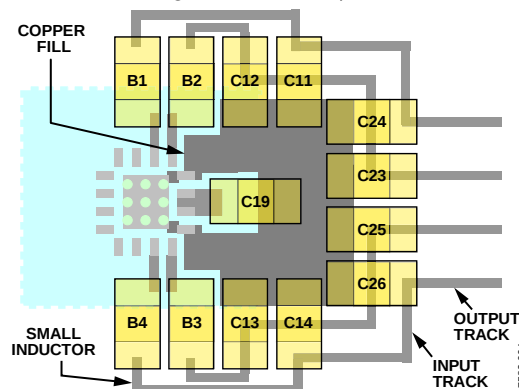
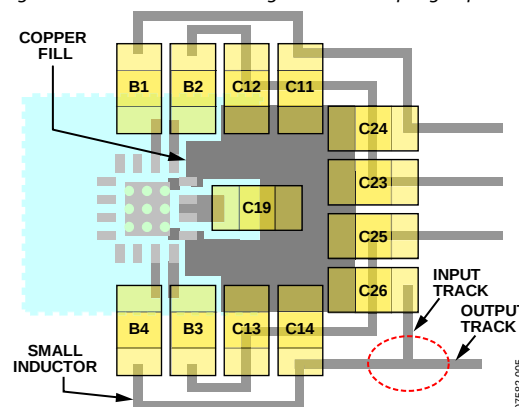

Figure 4. Placement and Routing for the Decoupling Capacitors
Figure 5. Incorrect Routing for the Output Decoupling Capacitor
3. Place the decoupling capacitors for the beads, C11, C12, C13, C14, C23, C24, C25, and C26, as close to the amplifier chip as possible, and connect all their ground terminals together as close as possible, as shown in Figure 4. The same principle applies to the decoupling capacitors for the inductors, C15, C16, C17, and C18, if they exist in the application design. Ideally, solder their ground terminals together; do not rely on PCB tracks or ground planes for connecting their ground terminals together.
4. Place the decoupling capacitor for the power supply, C19, as close to the amplifier chip as possible, as shown in Figure 4, and connect its ground terminal directly to the IC ground pins, Pin 13 and Pin 16.
7. The 1 nF capacitor and the ferrite bead can block the EMI for up to 250 MHz. To eliminate EMIs higher than the 250 MHz, place a low value small size capacitor, such as 100 pF 0402 size, in parallel with the decoupling capacitors, C11, C12, C13, and C14. However, place this small capacitor a short distance away, at least 20 mm, from the 1 nF decoupling capacitor. Ideally, the ground terminals of these capacitors are connected to the ground terminals or the PCB traces, which are placed as close to the output loads (loudspeakers) as possible. In this way, the PCB connecting trace between these two capacitors serves as an inductor for filtering out the high frequency component, as shown in Figure 4.
13. The incoming and outgoing PCB tracks to the output decoupling capacitors should not be connected to each other. The correct layout is shown in Figure 4. An example of an incorrect layout is shown in Figure 5.